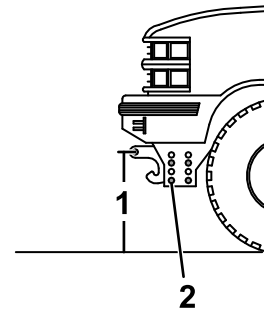

Figure 44
1. Measure the distance from the ground to the coupler spring-pin holes on the undercarriage pushbeam (Figure 44). The measurement should match the height listed for your plow in Specifications \(page 28\).
2. If the pushbeam is not at the correct height, remove the fasteners securing the pushbeam to the undercarriage (Figure 44).